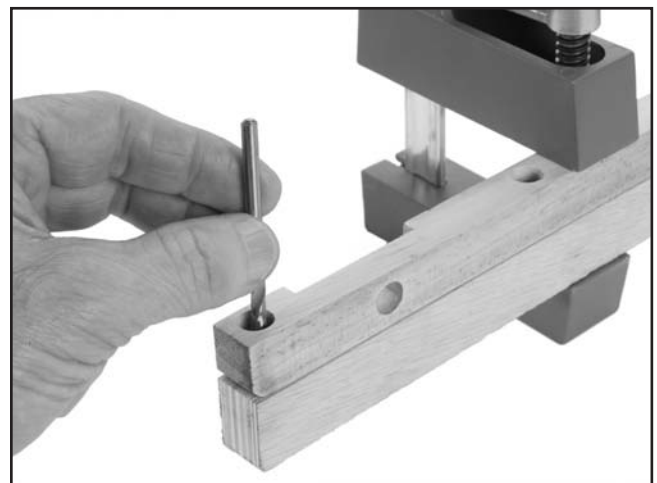

Figure 93. Marking location for mounting holes in new insert.
6. Use the included table insert as a template, as shown in **Figure 93**, to mark the mounting holes on the new table insert. (Clamping the pieces together while you do this will allow you to ensure the hole spacing is exact.)